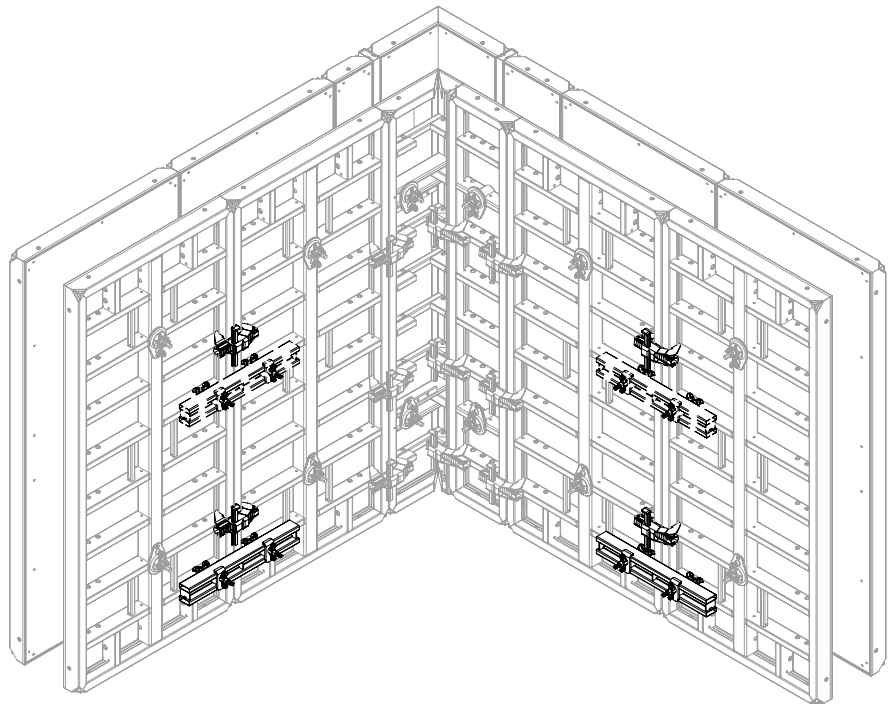

Fig. B3.02
With extensions, a second Compensation Waler MAR 85 (21) is required on the panel joint (shown as a dotted line). (Fig. B3.02 + B3.03)
(Fig. B3.02)